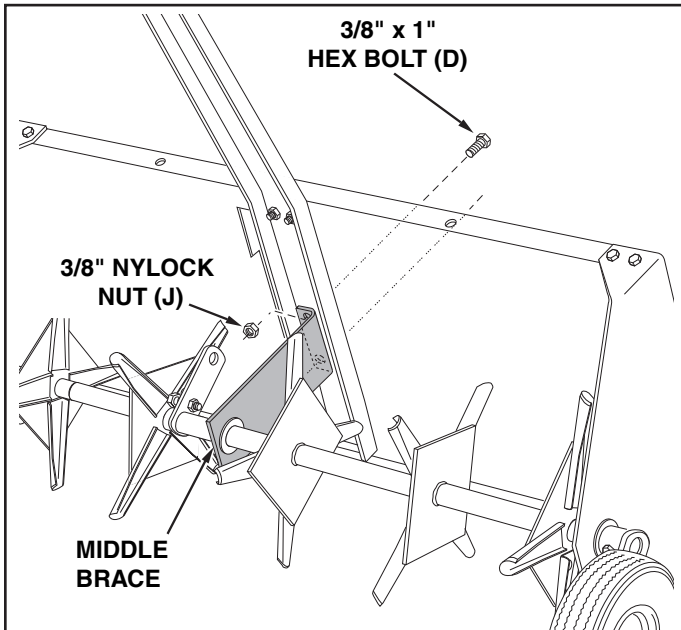

FIGURE 11
17. Tip the aerator back and fasten the middle brace to the bottom of the tongue using two 3/8" x 1" hex bolts, and 3/8" nylock nuts. **Do not tighten till step 20.** See figure 11.